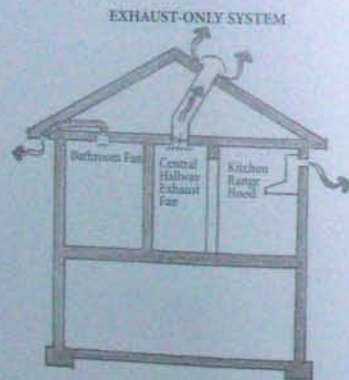

Figure 8
• **Exhaust-only systems** use a fan to pull air out of one room (e.g., a bathroom fan) or several rooms (e.g., a centralized exhaust fan with ducting to several rooms). Makeup air from outside comes through the small cracks and gaps that exist even after air sealing (see figure 8). The fan should be outfitted with a programmable timer and run on a regular schedule. Exhaust-only systems are easy and inexpensive to install, but if placed inappropriately, they may draw in makeup air